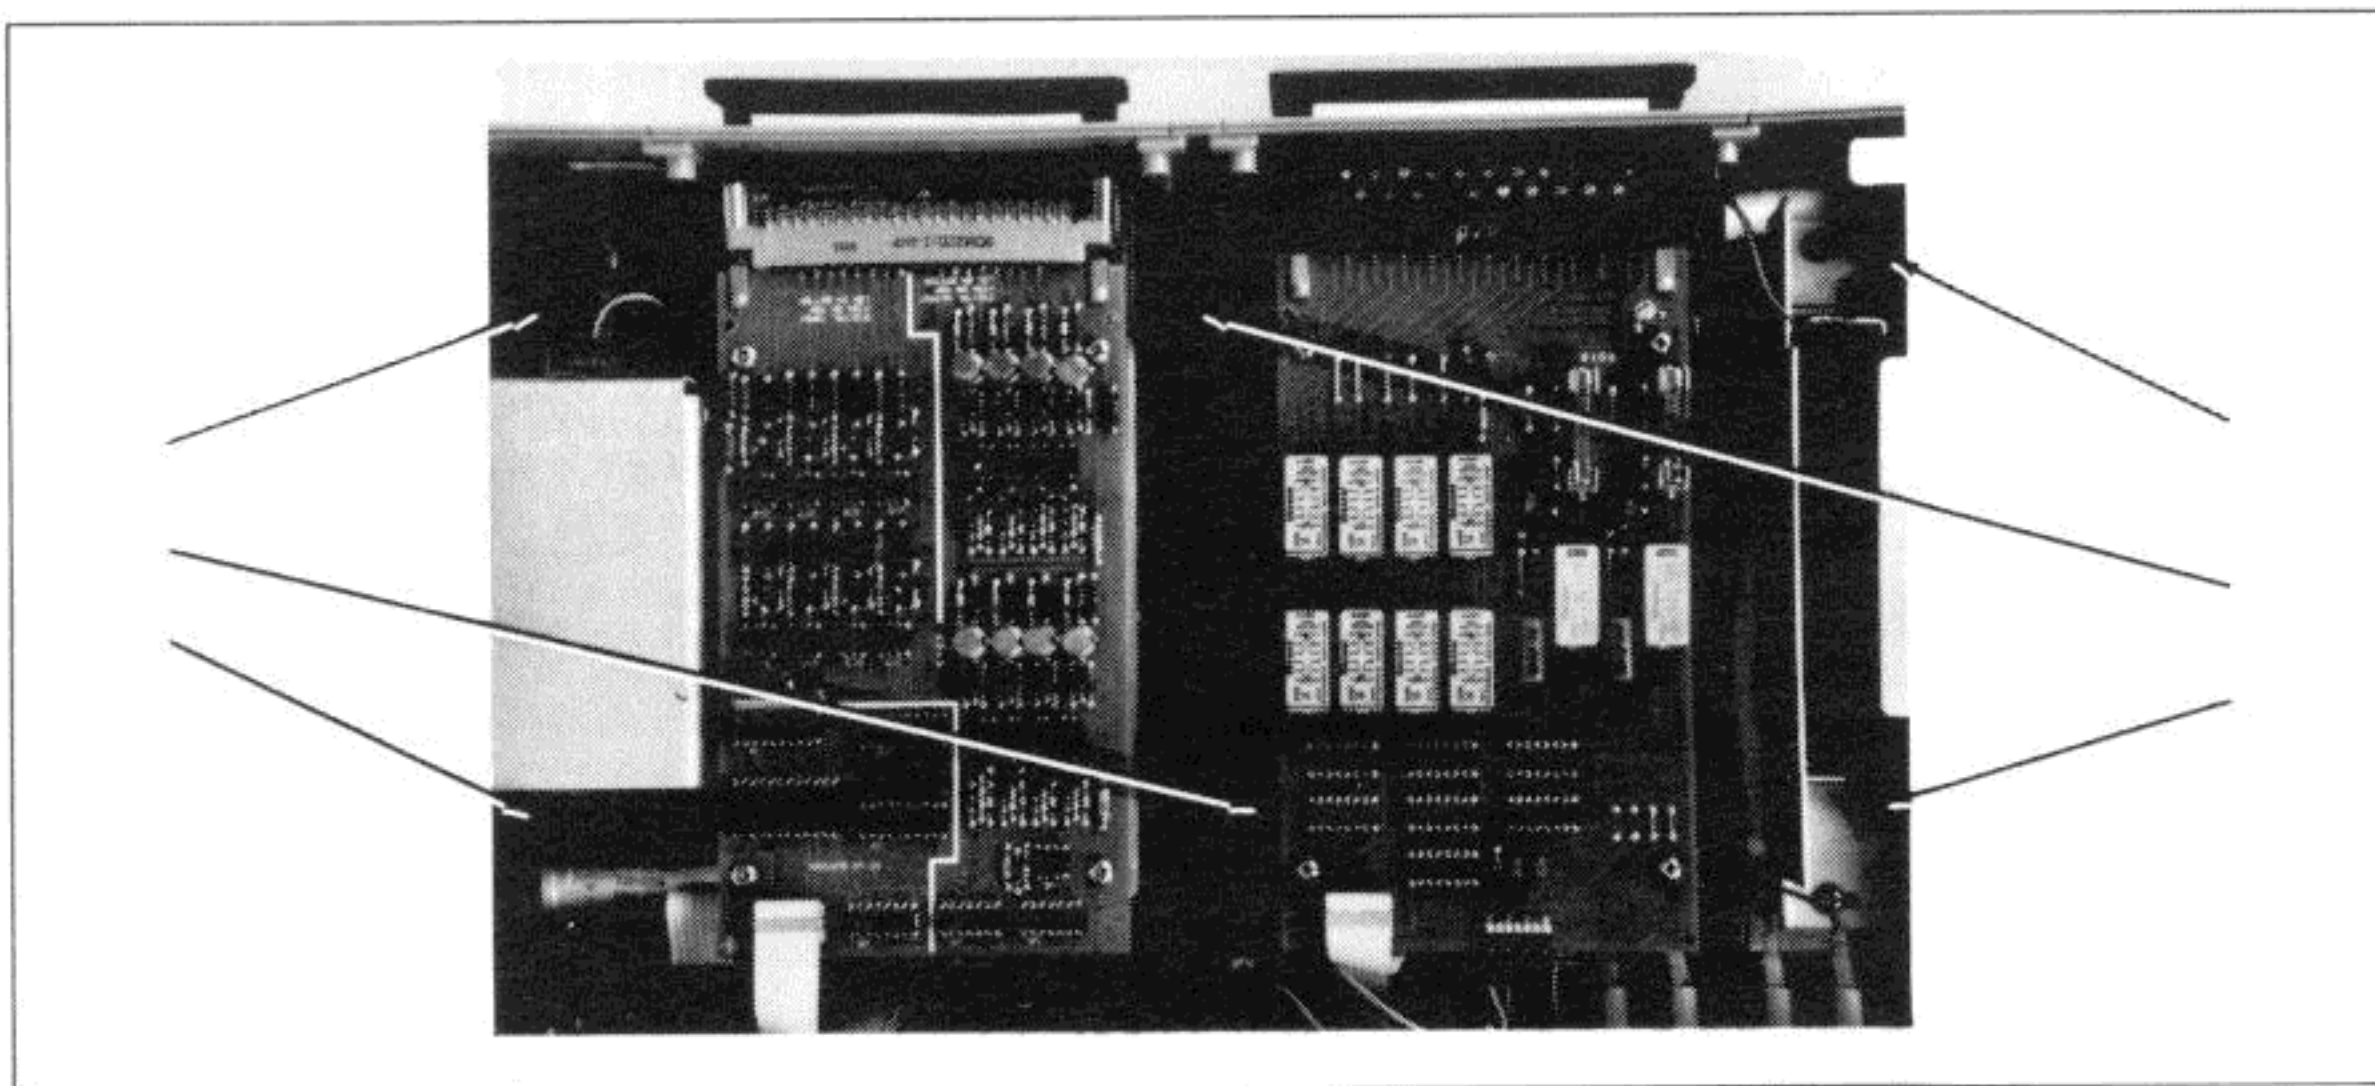

Figure 1-8-17. Plastic Spacer Placement
- cc. Before replacing the top cover, first make sure the main battery fuse has been replaced. Then locate the six plastic spacers and place them on the cabinet screws as shown in Figure 1-8-17.